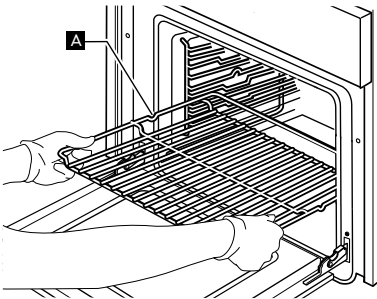

Fig. 1
- 1. Insert the wire shelf horizontally, with the raised part "A" upwards (Fig. 1).